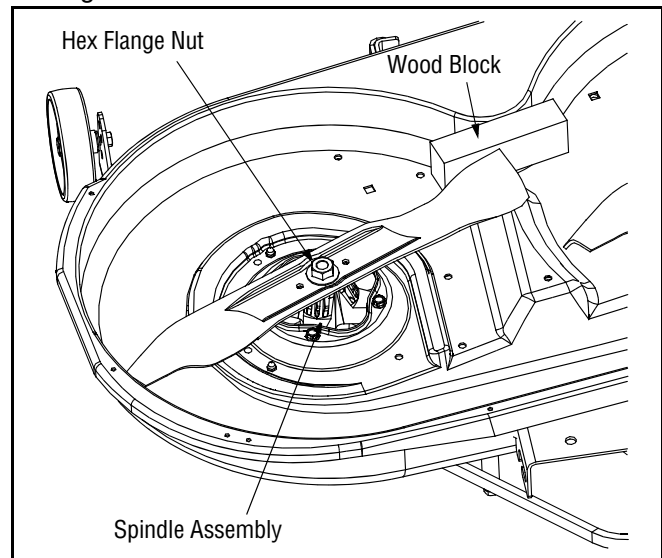

Figure 14
- Place a block of wood between the center deck housing baffle and the cutting blade to act as a stabilizer. See Figure 14.
- Use a wrench to remove the hex flange nut that secures the blade to the spindle assembly. See Figure 14.